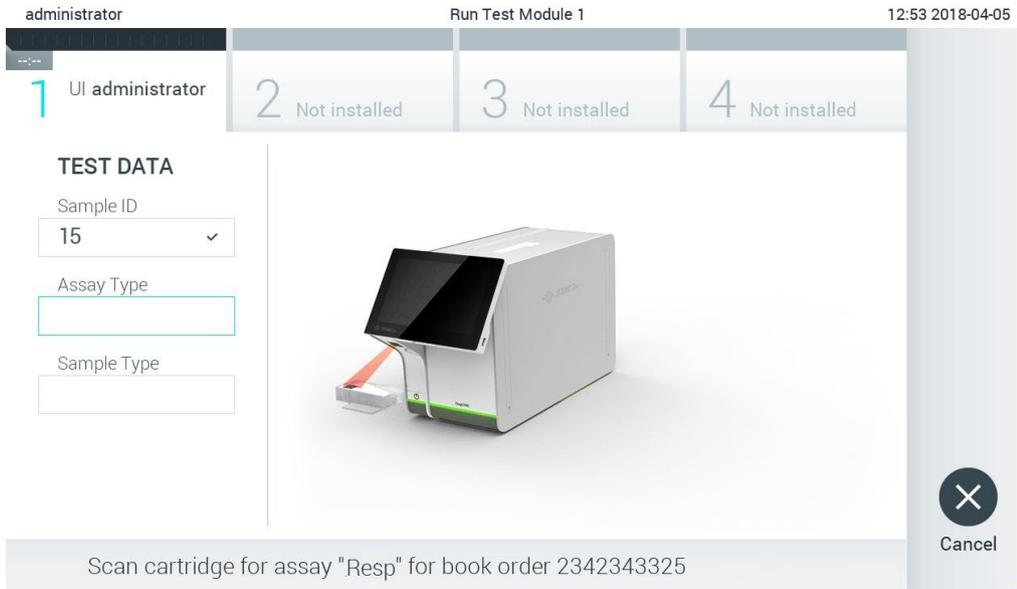

Figure 84. Scanning the QIAstat-Dx assay cartridge bar code.
4. When the test order has been successfully received from the host, “Scan cartridge for assay <assay_name> and book order <order_number>” is displayed. Scan the bar code of the specified QIAstat-Dx assay cartridge (Figure 84).